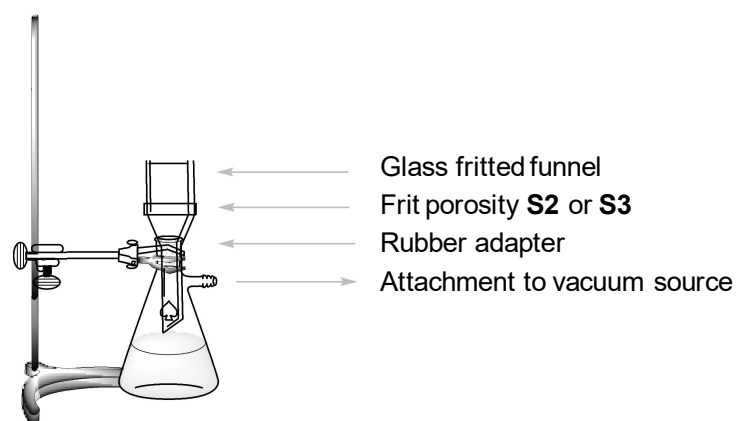

Figure 3. Setup for suction filtration.
2. Set up a vacuum filtration apparatus (Figure 3) using a glass fritted funnel with porosity **S2** (with **white label**) and secure it to a laboratory stand with a small clamp. Connect the suction flask to the vacuum source. Pour the suspension of product **B** (step No. IV.1) into the fritted funnel, let the solid set down, and then open the vacuum valve. **Caution: notify the lab assistant before and after handling the valve!** Wash the solid twice with 6 cm³ of deionized water, until the pH of the dropping filtrate is about 6. Let air suck through the precipitate for 5 minutes to pre-dry the product. Disconnect the vacuum source. Use the spatula to transfer white product **B** to a glass vial labelled **Student code B** and leave it uncovered on the bench to dry. Discard the filtrate to the sink drain and wash the suction flask.